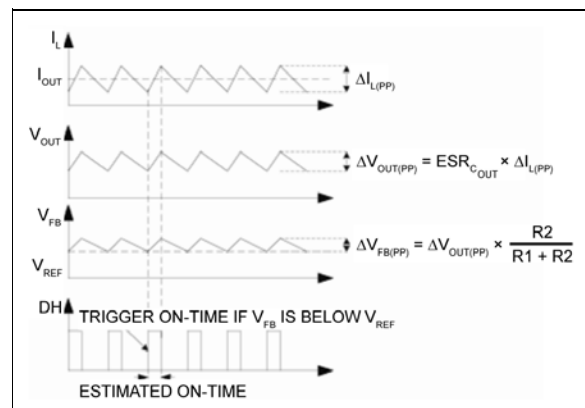

FIGURE 4-1: MIC2125/6 Control Loop Timing
The MIC2125/6 Functional Block Diagram appears on page two. The output voltage is sensed by the MIC2125/6 feedback pin (FB), and is compared to a 0.6V reference voltage (V_{REF}) at the low gain transconductance error amplifier (g_m). Figure 4-1 shows the MIC2125/6 control loop timing during steady-state operation. When the feedback voltage decreases and the amplifier output is below 0.6V, the comparator triggers and generates an ON-time period. The ON-time period is predetermined by the fixed t_{ON} estimator circuitry value from Equation 4-1:
The MIC2125/6 high-side drive circuit is designed to switch an N-Channel MOSFET. Figure 4-1 shows a bootstrap circuit, consisting of a PMOS switch and C_{BST} . This circuit supplies energy to the high-side drive circuit. Capacitor C_{BST} is charged while the low-side MOSFET is on and the voltage on the SW pin is approximately 0V. When the high-side MOSFET driver is turned on, energy from C_{BST} is used to turn the MOSFET on. If the bias current of the high-side driver is less than 10 mA, a 0.1 μF capacitor is sufficient to hold the gate voltage within minimal droop, (i.e., $\Delta_{BST} = 10\text{ mA} \times 3.33\text{ }\mu\text{s} / 0.1\text{ }\mu\text{F} = 333\text{ mV}$). A small resistor, R_G in series with C_{BST} , can be used to slow down the turn-on time of the high-side N-channel MOSFET.